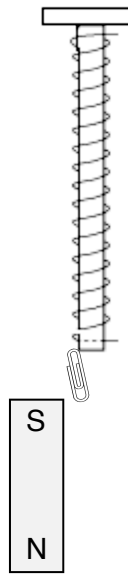

Fig. 2.3
- (ii) Now bring the South Pole of the magnet closer to the end of the paper clip, but not touching, as shown in Fig. 2.3.